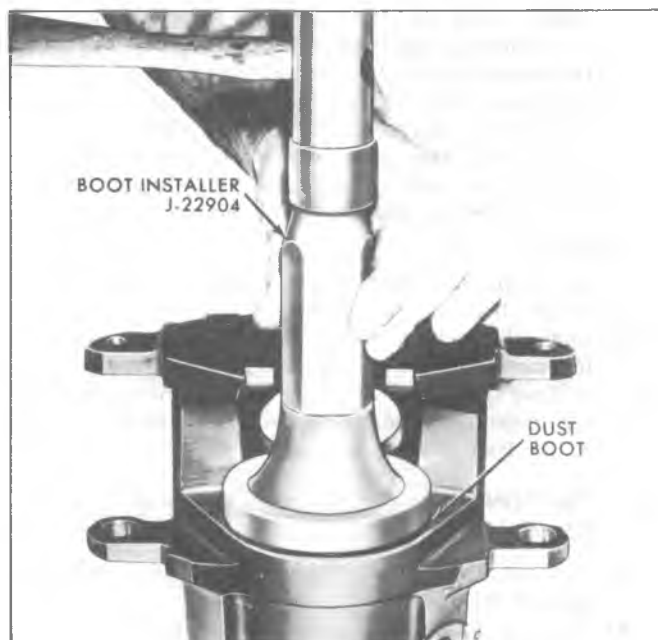

Fig. 37—Installing Boot to Caliper
4. Position the dust boot in the caliper counterbore and seat using Boot Installer Tool J-22904 (fig. 37).